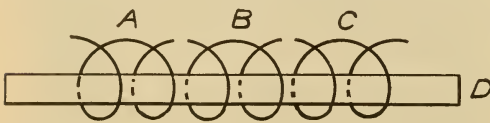

FIG. 9. MANNER OF CONNECTING DOUBLE SECTIONS
rection around the completed coil. In Fig. 9 is shown the plan to be followed out in assembling. (A), (B) and (C) represent the respective double sections and (D) the core.